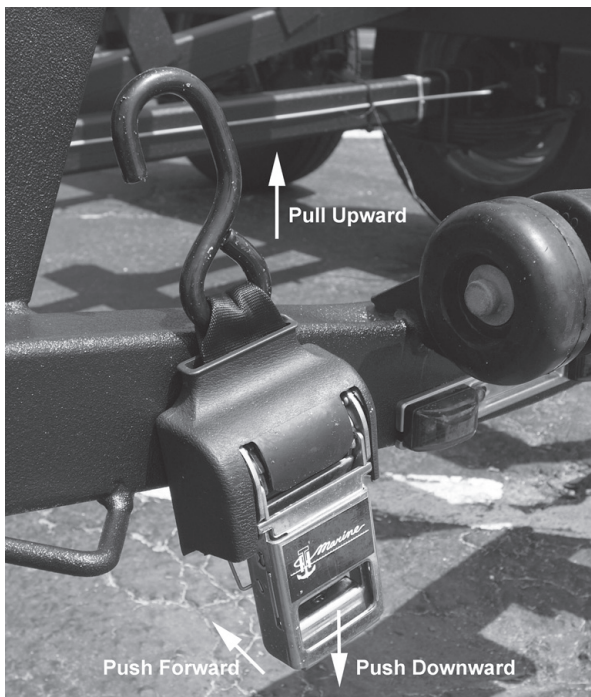

Figure F12: Rear Tie Down Strap - Release
1. Place two fingers on spring-loaded release and push release downward while pushing the handle forward towards the trailer. See Figure F12.